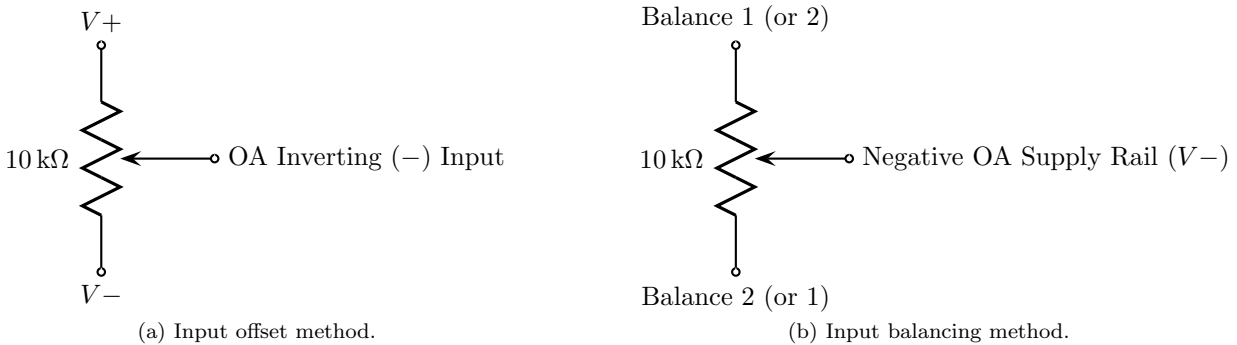

Figure 2.3: Offset nulling potentiometer configurations.
2. Then, attach a potentiometer to the inverting input node (i.e., the $-$ input of the OA) as in Figure 2.3\(a\).
2. Connect a potentiometer to the “balance” pins as shown in Figure 2.3\(b\).